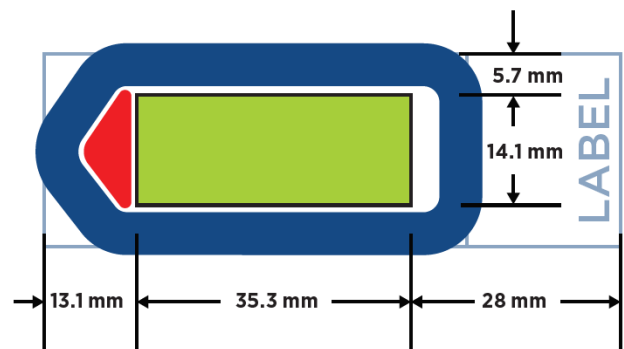

Figure 3: Slide dimensions
1. Tissue sections should be **5 μm** thick and mounted on **Superfrost Plus or BOND Plus slides**. Tissue sections must be placed in the **Scan Area** (shown in green) (see Figure 3) in the center of the slide and be **no larger than 35.3 mm long by 14.1 mm wide**. Mounted material should not overlap the slide gasket (shown in blue) or the Tip Calibration area (shown in red). If mounting multiple sections per slide, ensure that tissues are at least 2–3 mm apart and still fit within the Scan Area.